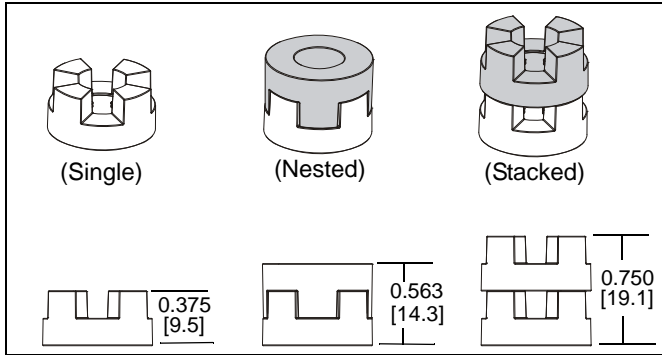

Figure 5
NOTE: The nesting spacers (MA) may be used separately, or put two together in different configurations to create different size spacers. (See Figure 5)